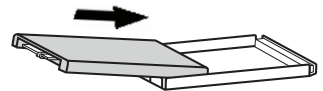

Figure 3. Insert the drive into the carrier.
- b. Insert a 2.5-inch 7mm SATA drive with the top label facing up into the carrier by compressing the foam spring and placing the drive into the carrier bottom (see Figure 3). Ensure that the unified SATA and power data connector is facing out of the rear of the carrier.